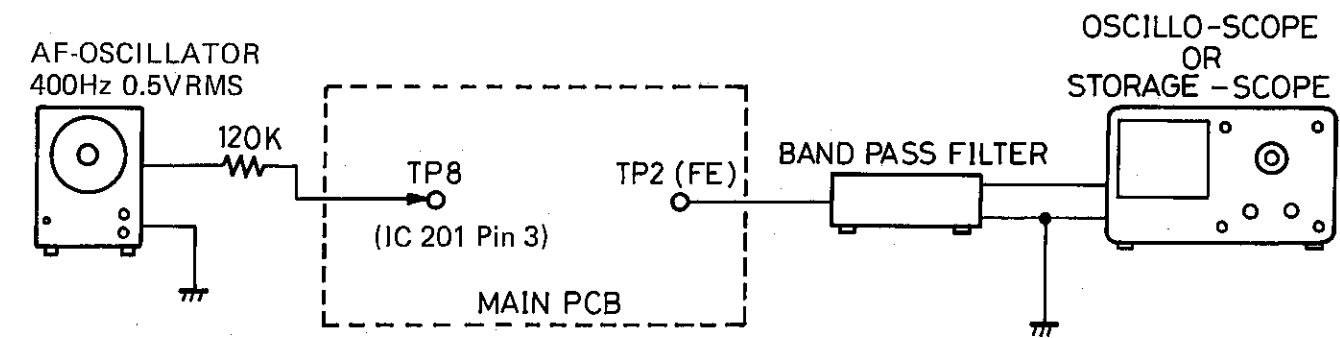

Figure 15
1. Connect the storage scope to TP2 (F.E) by the Band pass filter (see Figure 15).